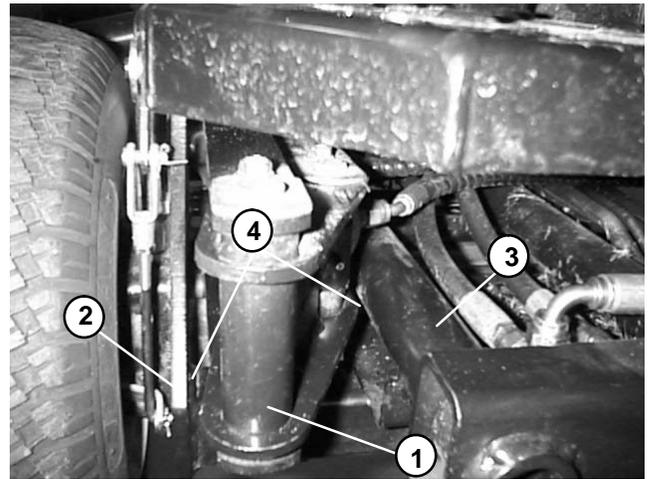

Figure 92
- C. The gap between the scissor frame and lower frame and the gap between the scissor frame and the sidewinder carrier must be equal distances within 0.060 inch (1.5 mm) (Fig. 92).